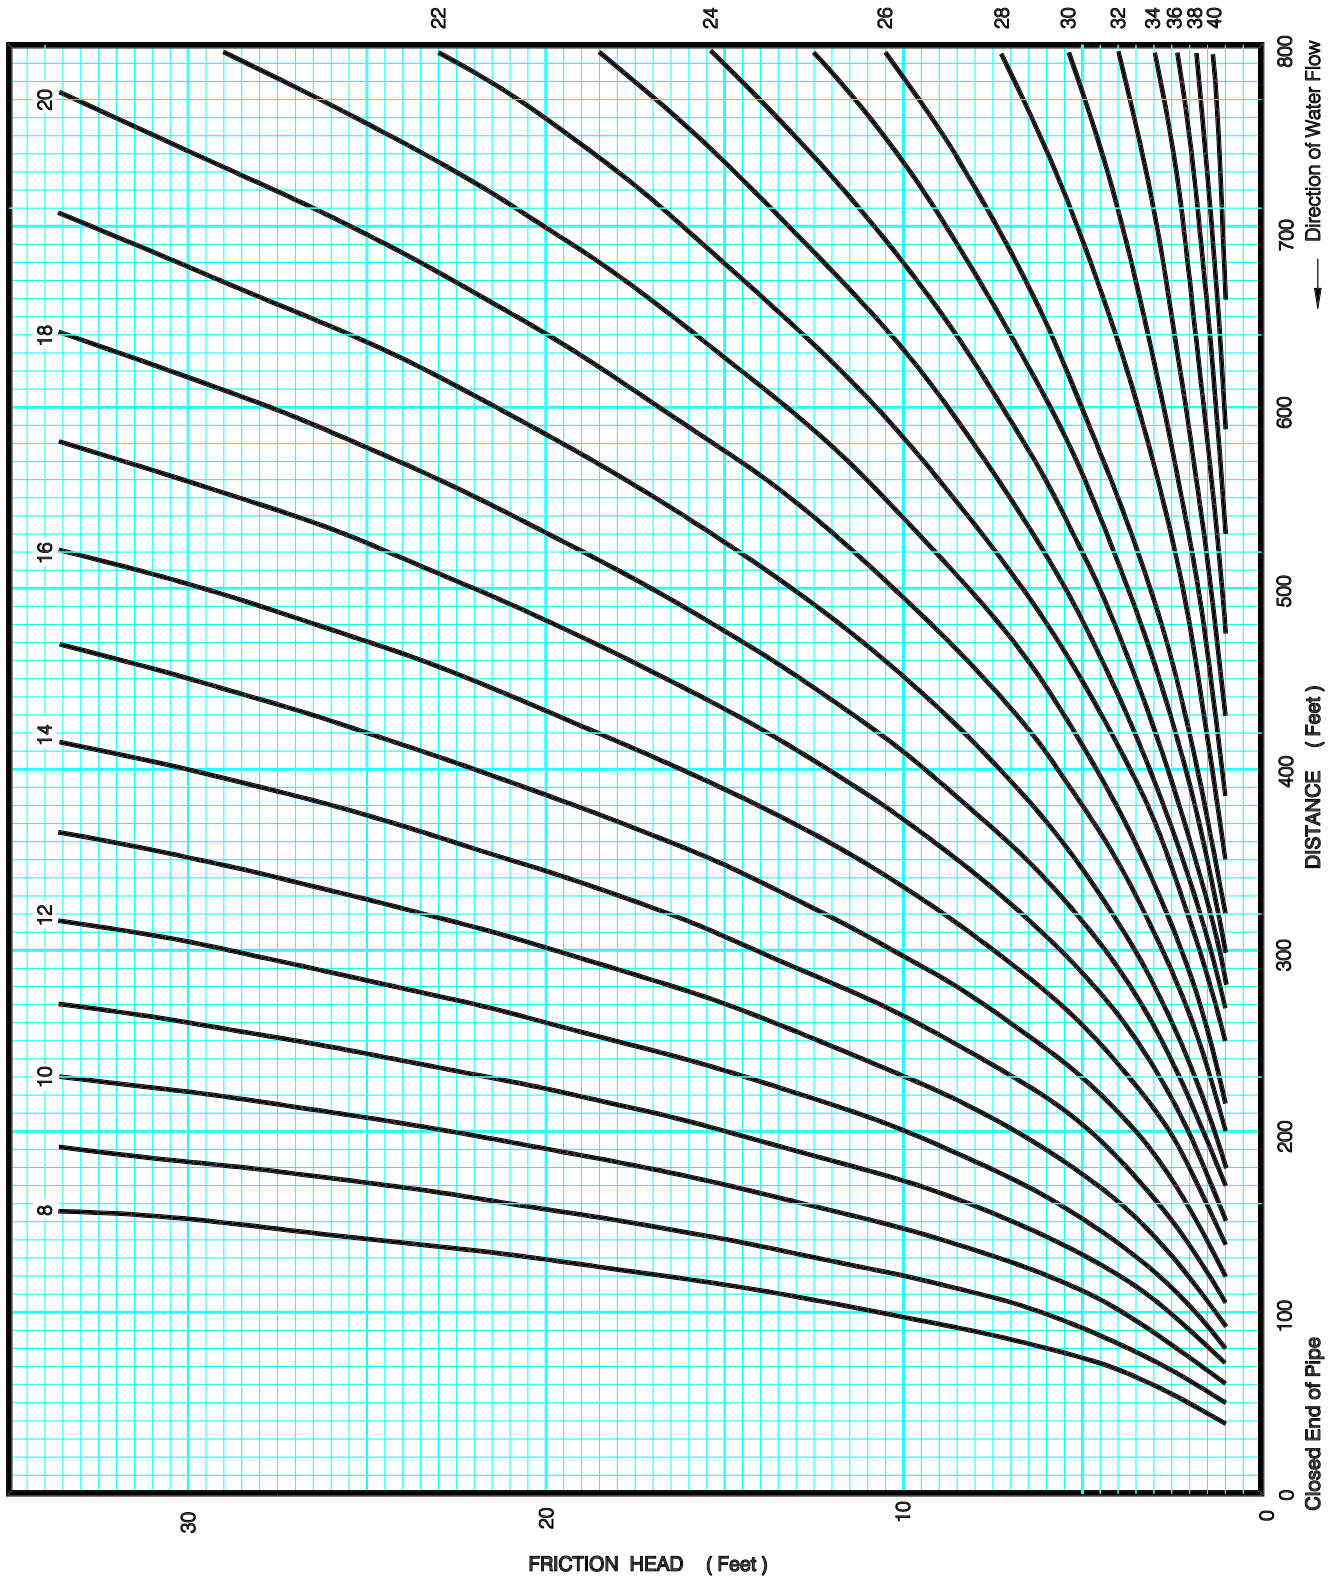

Figure D.6
3. Place a sheet of tracing paper over the Uniplot curves (Figure D.6). Draw the vertical and horizontal axes. Draw a vertical line at the distance along the horizontal axis equal to the length of the pipeline.
Use Figure D. 6